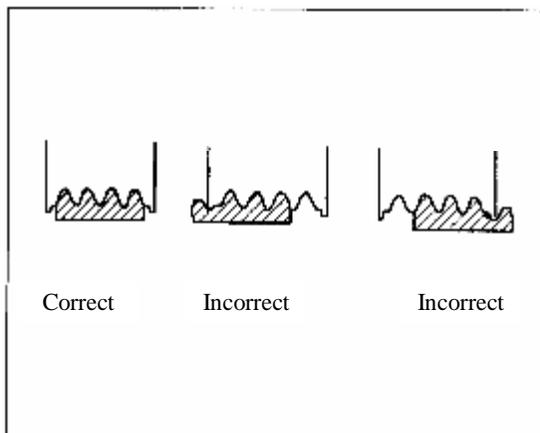

Figure 3-50 Check Engagement of Fan Belt into Pulley
- (1) Check fan belt for crack, extending, deterioration or serious wear. Replace if necessary.
- (2) As shown in Figure 3-50, make sure the fan belt engages correctly into pulley.